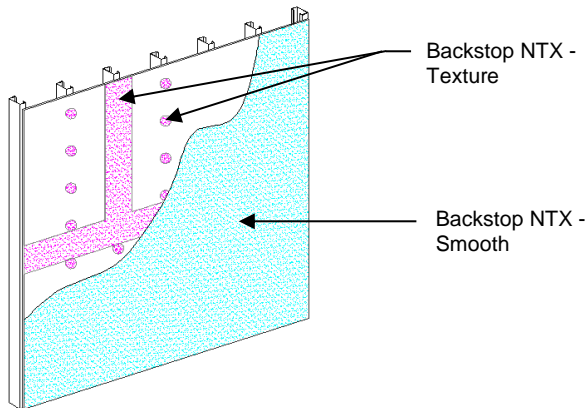

Figure 5
- 1) Backstop NTX Smooth material should be applied in a uniform, continuous film at the recommended coverage rate free of voids and pinholes – Figure 5. **NOTE: Sheathing substrates with a surface texture or high porosity will require additional material.**